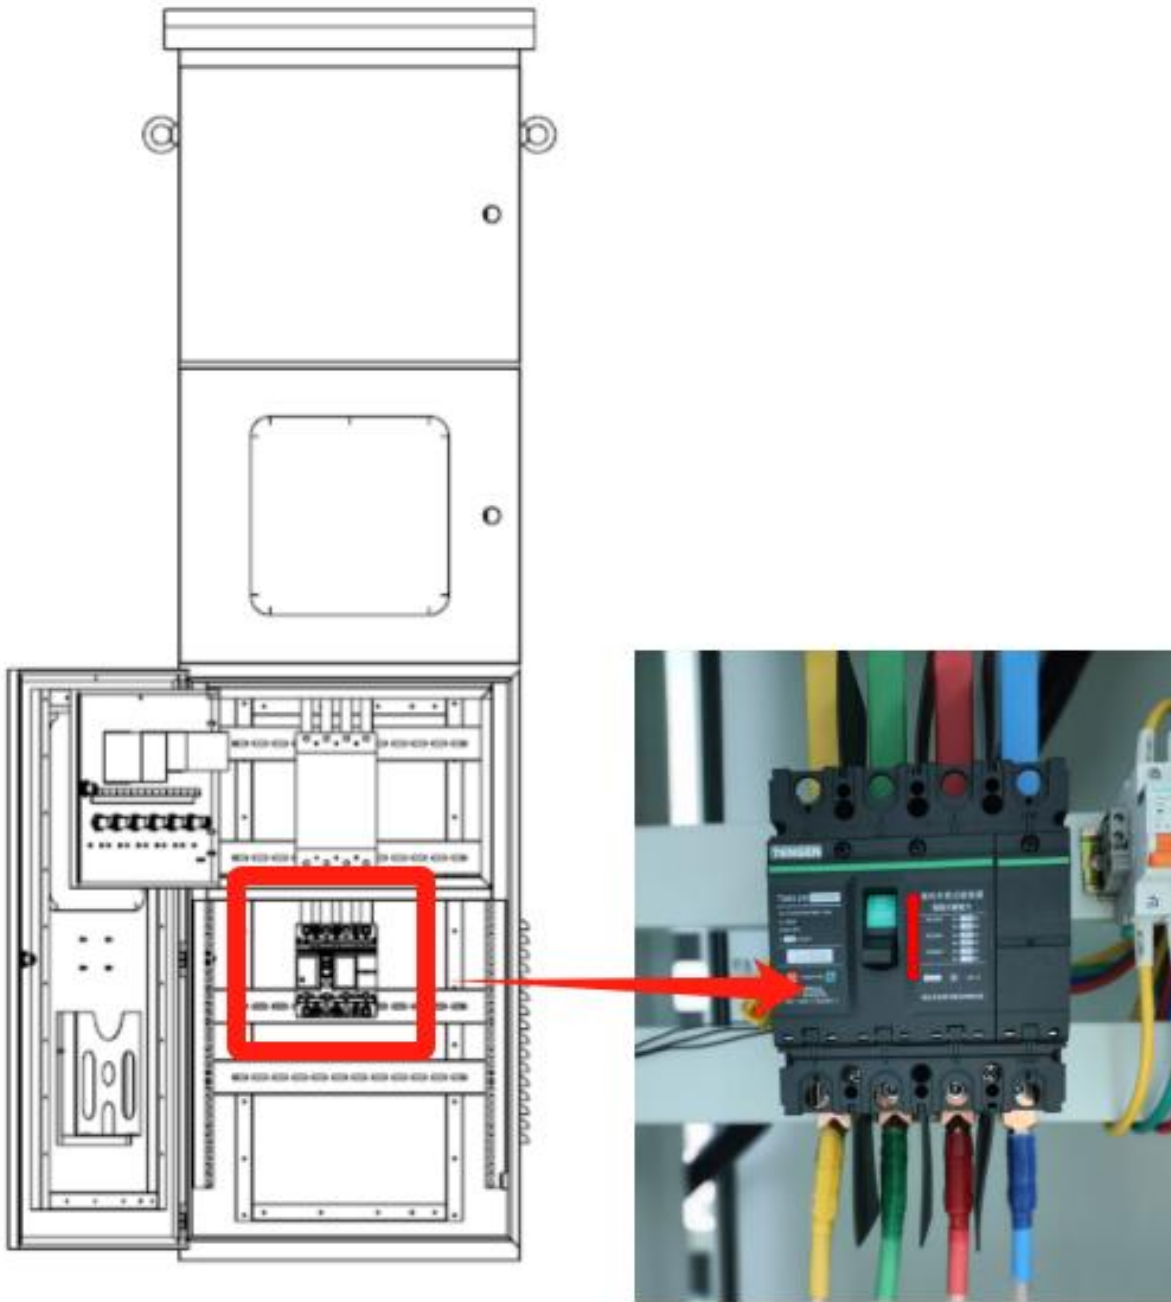

Figure 6.2 Grid-connected cabinet load circuit breaker
Step 1: Close the load circuit breaker of the grid-connecting cabinet, as shown in Figure 6.2.